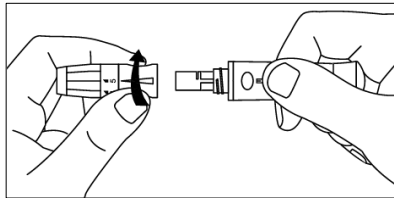

Fig 5.29
**Step 1:** Unscrew the lancing device cover from the body of the lancing device. (Ref Fig 5.29)